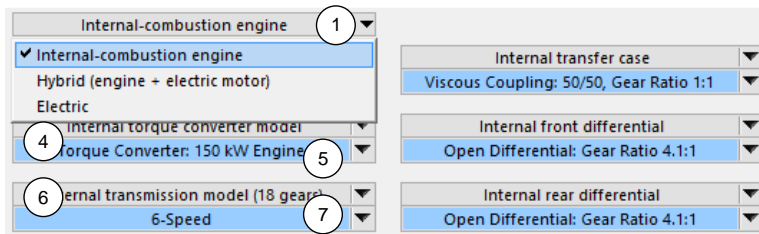

Figure 14. Select either internal-combustion, hybrid-electric or electric system.
CarSim and TruckSim support three different propulsion systems. Select the type of system from the ring control ① on the powertrain assemble screen (Figure 14):
- ② Drop-down list (Figure 14, page 9) for selecting an external or internal engine model (keyword = `OPT_ENGINE_INTERNAL`). The data link for the engine ③ is hidden when the external engine model is selected.
- ③ Link to a **Powertrain: Engine** dataset.
- ④ Drop-down list for selecting an external torque coupling model, internal torque converter or internal clutch model (keyword = `OPT_PWR_CPL_INTERNAL`). The data link for the torque coupling ⑤ is hidden when the external torque coupling model is selected.
- ⑤ Link to either a **Powertrain: Torque Converter** dataset or a **Powertrain: Clutch Torque** dataset. The type of link determines how the engine transfers torque to the transmission.
- ⑥ Drop-down list for selecting an external or internal transmission model (keyword = `OPT_TRANS_INTERNAL`).
- ⑦ Link to either a **Powertrain: Transmission (External)** dataset or a **Powertrain: Transmission** dataset.